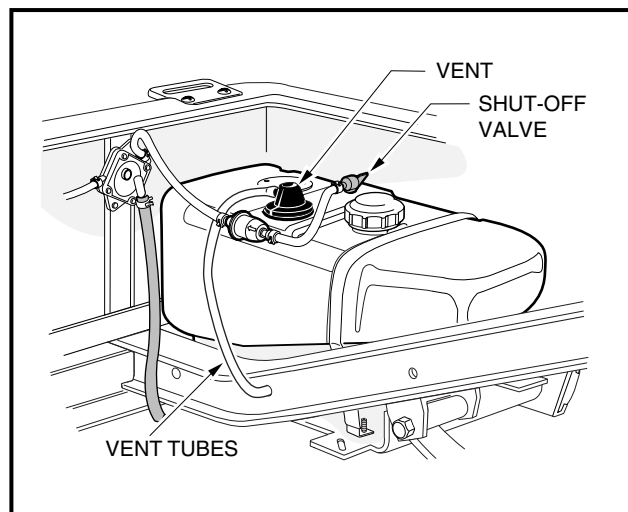

Figure 17 Fuel Tank
1. Restore fuel system to operation (**Figure 17, Page 26**).
- If the vehicle has an all-weather enclosure installed, be sure the fuel tank is properly vented as shown (Figure 17).